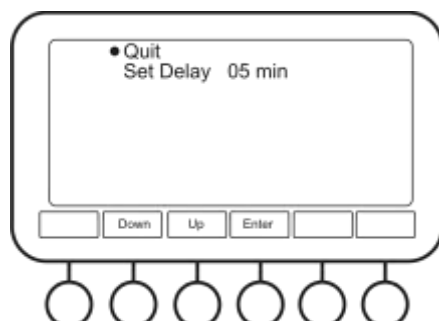

Figure 10. Auto Lock Delay menu
- **Auto Lock Delay** (fig. 10). After being idle for several minutes, the incubator locks the buttons (except the **Lock** button). This timer allows changing the idle time.